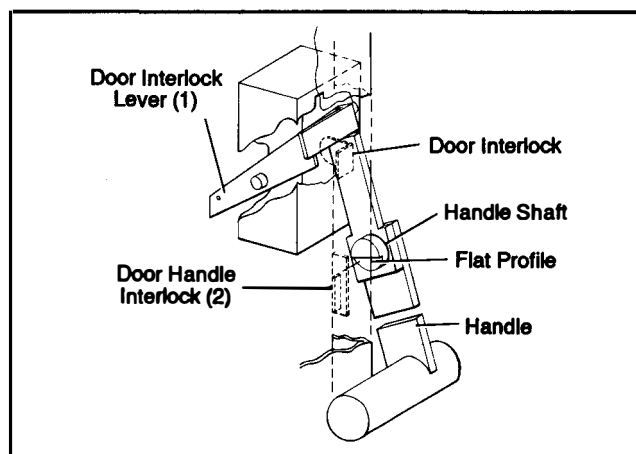

Figure 2. Door Interlock and Door-Handle Interlock.
The racking handle is interlocked, **Figure 2**, with the door such that the handle cannot be moved to the ON position with the door open.
The door-handle interlock, (2), prohibits closing or opening the medium voltage compartment door except when the racking handle is in the OFF position. The flat profile on the end of the handle shaft will not allow the door-handle interlock to pass in or out unless the handle is OFF. Refer to **Figure 2**.